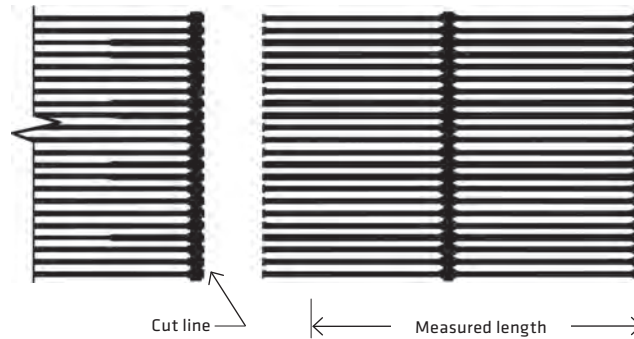

FIGURE 4
- ▶ The Contractor is responsible for cutting the geogrid to length in the field. Precut geogrid should then be tagged for length and type. The first transverse bar (at the connection) on each section of geogrid should be trimmed neatly to expedite making the connection of the geogrid to the wall facing. Do not cut into the transverse bar of the geogrid (Figure 4).